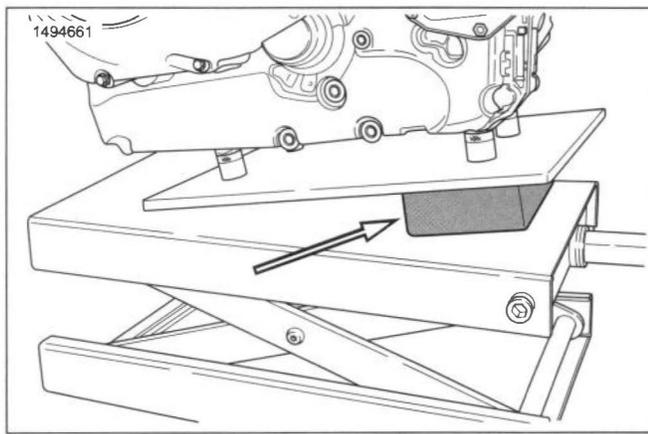

Figure 4-85. 2X4 in Position
- b. See Figure 4-85. Once flat jack reaches end of travel, place a section of 2 X 4 between flat jack and engine support plate.
- b. See Figure 4-85. Lower powertrain onto flat jack and 2 X 4.